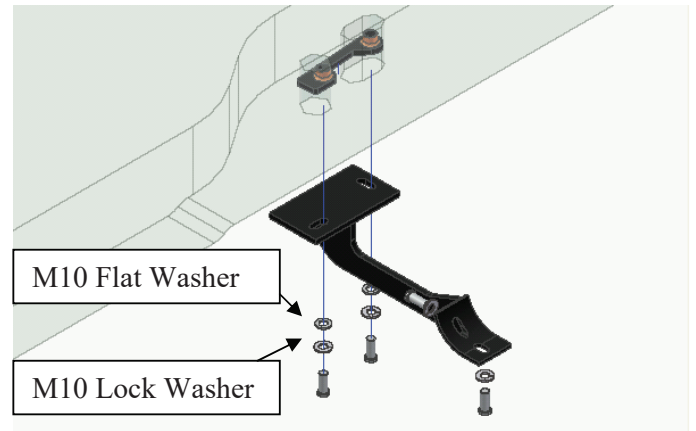

Figure 1.3 - Rear Bracket
4. Locate the rear mounting holes (one slot and one hole) on the underside of the rocker panel, below the rear door. Insert (1) M10 Nut Plate into slot so holes of Nut Plate line up with mount holes on the vehicle(see Figure 1.3).